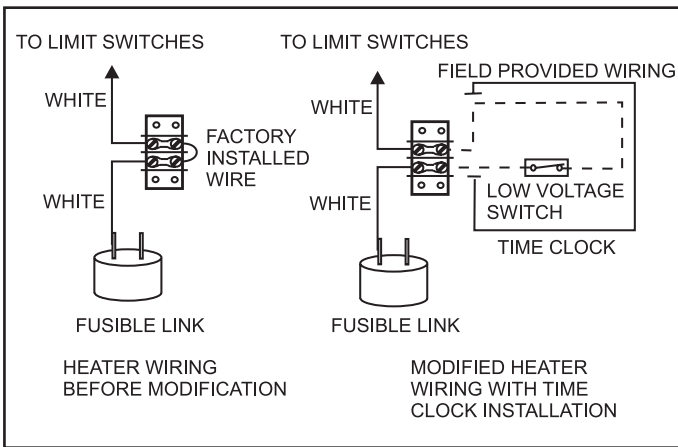

Figure 16. Typical time clock wiring.
If a time clock is provided to control the pool filter pump, it should have a separate low-voltage (Fireman's) switch for the heater. Route the heater's 24 VAC control circuit through this switch as shown in Figures 16 and 17. To do this, remove the “jumper” from the terminal block in the heater control compartment. Connect two (2) wires to this terminal block and route them to the Fireman's switch at the time clock. Provide wiring of at least 18 gauge with insulation at least 3/64" thick and having a temperature rating of at least 90°C.